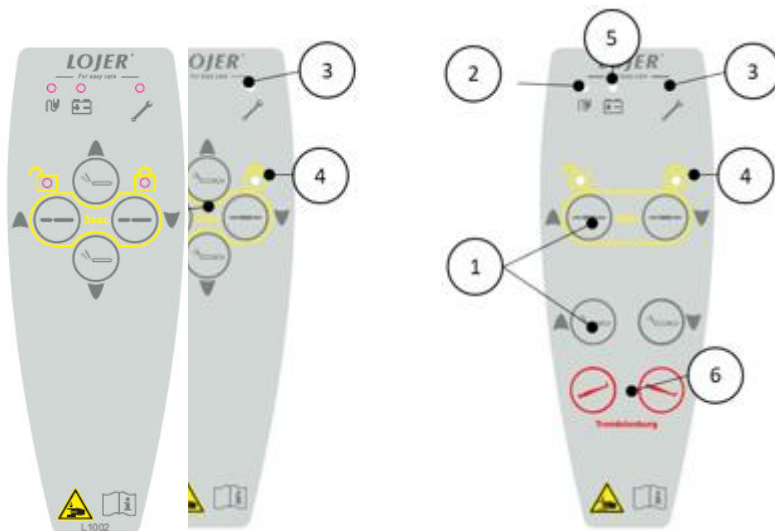

Figure 2.1: Hand controls (4050X M model)
Table can be equipped with battery (battery is always included with Trendelenburg option). Battery is only to be used temporarily e.g. during power loss. 4050X M model's battery indicator led (Figure 2.1 (5)) is on when the device is on battery use. When charging, indicator leds flash slow (Figure 2.1 (2&5)). The device should be connected to mains, when the battery indicator led flashes and sound signal is heard during adjustments.
4050X F model's battery indicator led (Figure 2.1 (6)) is on when the device is on battery use. When charging, indicator leds flash slow (Figure 2.1 (6&7)). The device should be connected to mains, when the battery indicator led flashes and sound signal is heard during adjustments.